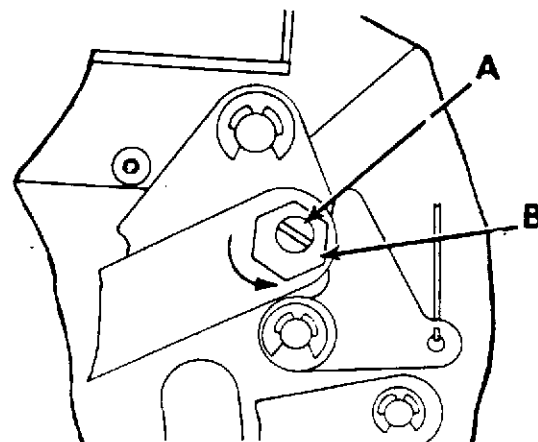

FIG. 7
- B) To adjust, loosen screw (A) Fig. 7. Rotate eccentric (B) counterclockwise approximately 1/4 turn. Secure screw (A).